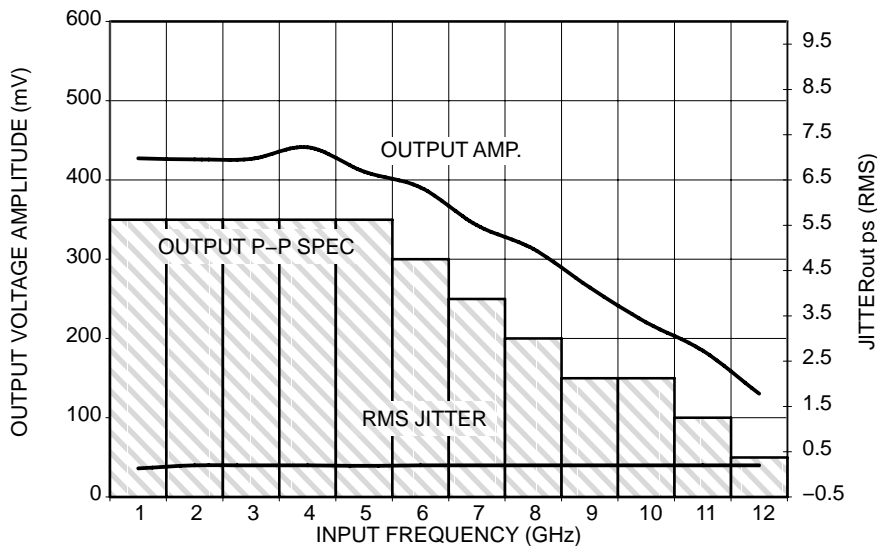

Figure 4. Output Voltage Amplitude (V_{OUTPP}) / RMS Jitter vs. Input Frequency (f_{in}) at Ambient Temperature (Typical)
22. Measured using a 500 mV source, 50% duty cycle clock source. All loading with $50\ \Omega$ to $V_{CC} - 2.0\text{ V}$. For minimum f_{max} value of 10.709 GHz, output amplitude is approximately 200 mV (as shown in Figure 4, where output P-P spec is shown as a minimum/guarantee of around 150 mV). Input edge rates 40 ps (20% – 80%).
27. Measured using a 500 mV source, 50% duty cycle clock source. All loading with $50\ \Omega$ to $V_{CC} - 2.0\text{ V}$. For minimum f_{\max} value of 10.5 GHz, output amplitude is approximately 200 mV (as shown in Figure 4, where output P-P spec is shown as a minimum/guarantee of around 150 mV). Input edge rates 40 ps (20% – 80%).